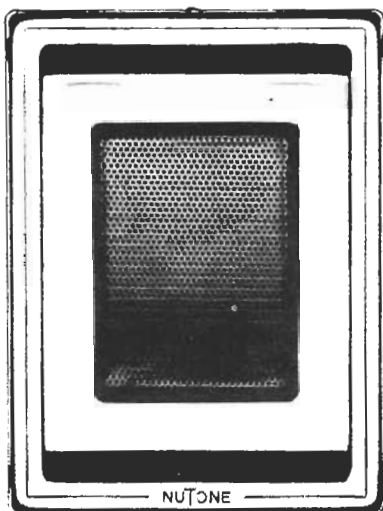

Fig. 10. Model 2571 outside door remote speaker station.
2. Model 2571—3½ inch speaker (Fig. 10).
### Installing Model 2571 Door Speaker (Figs. 10 and 11).